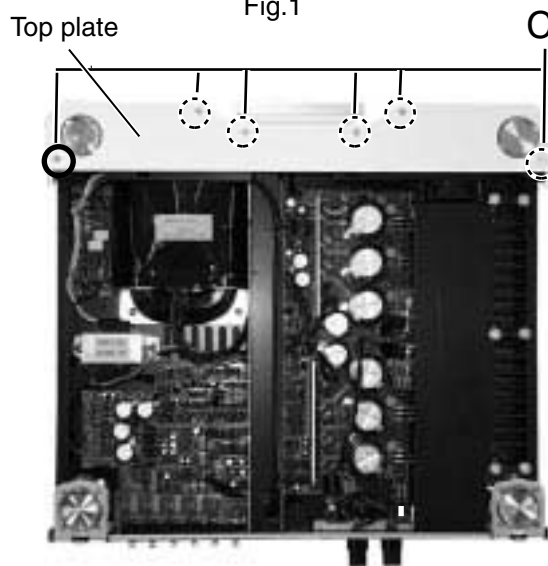

Fig.2
■ Removing the front panel assembly (See Fig. 2 to 5)